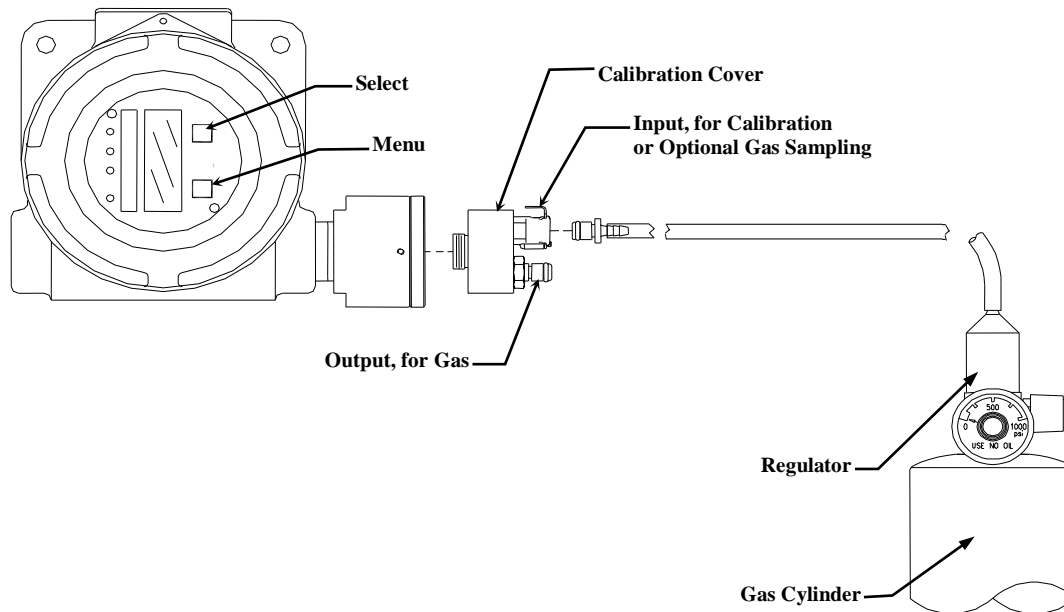

Figure 4: Calibration Adapter EX-5165 Sensor/Transmitter
3. Attach the associated calibration gas cylinder to the regulator and calibration cover. See to **Figure 4**.